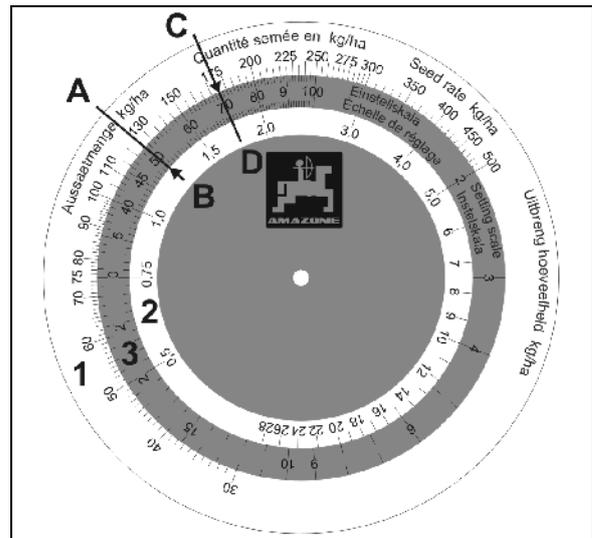

Fig. 99
The calculating disc rule consists of three scales: an outer white scale (Fig. 99/1) for all spread rates over 30 kg/ha and an inner white scale (Fig. 99/2) for all spread rates under 30 kg/ha. In the central, coloured scale (Fig. 99/3) the gearbox settings 1 to 100 are specified.
2. On the calculating disc rule, set the spread rate **125 kg/ha** (Fig. 99/A) and the gearbox setting **50** (Fig. 99/B) above each other.
3. On the calculating disc rule, now read the gearbox setting for the desired spread rate of **175 kg/ha** (Fig. 99/C). In our example, this is gearbox setting **70** (Fig. 99/D).